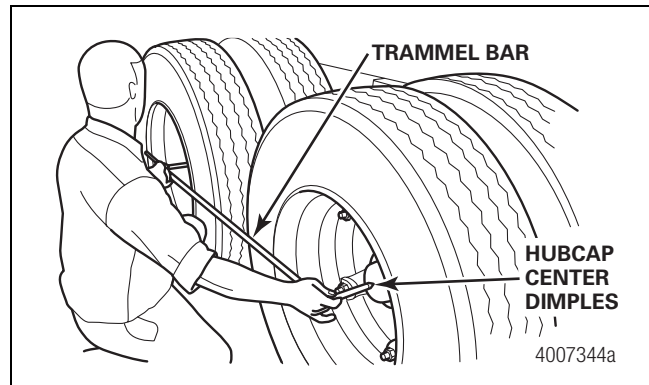
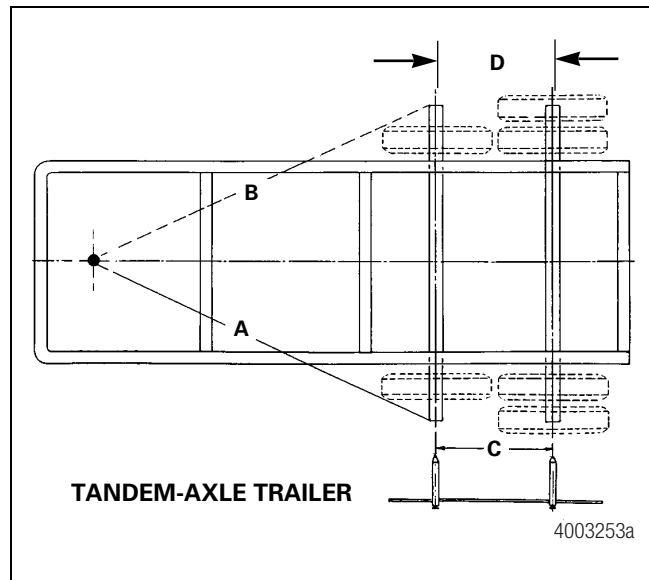

Figure 73
Figure 74
5. For multiple axle chassis, hold a trammel bar next to the axle on the non-adjustable side "D" of the suspension. Move the indicators to the hubcap center dimples on each axle and record the measurement. Move the trammel bar to the adjustable side "C" and compare the measurements between axles. The difference between the "C" and "D" dimensions must not exceed 1/8-inch (3.175 mm). Figure 73 and Figure 74.